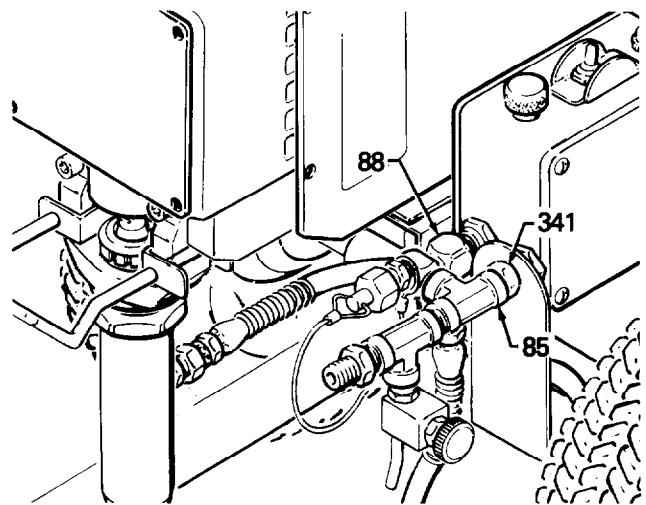

Fig 18
#### Calibration Setup (See Fig 18 and 19)
3. Remove the elbow (88). Holding the nipple (341) with a wrench to prevent it from turning, rotate the tee (85) up and install the test gauge (X) in the tee (85). See Fig 18.
7. With the pressure control knob at the *minimum* setting, turn the sprayer switch ON. See Fig 18.